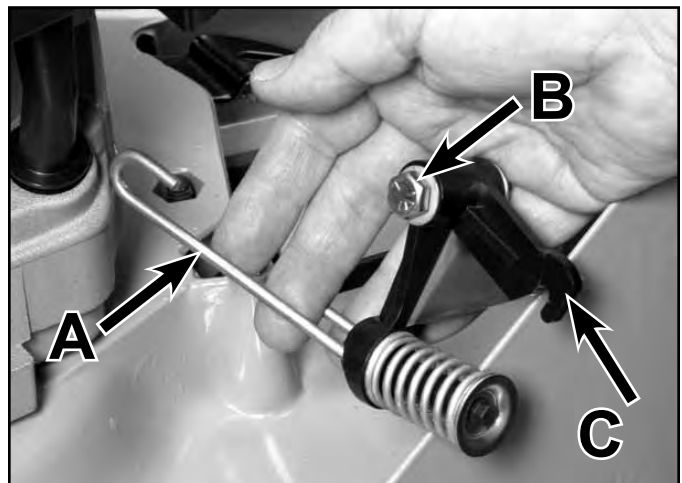

Fig 198
3. Remove the shoulder bolt and flanged nut securing the bellcrank to the control cable bracket. Once loose, remove the bellcrank assembly complete with control link from the unit (Fig. 198).